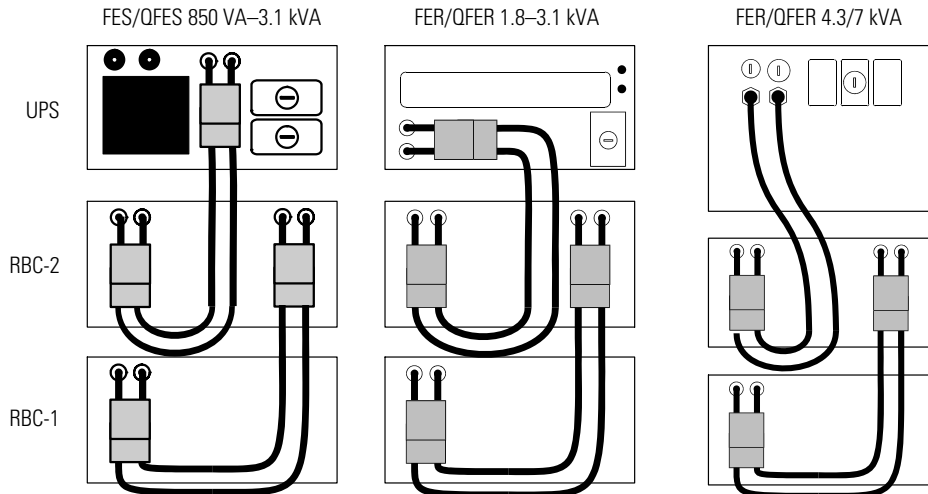

Figure 45. RBC-1 and RBC-2 Battery Connections
If the UPS has more than one battery cabinet, connect the bottom battery cabinet to the middle cabinet as shown in Figure 45.
3. If the battery voltage and polarity are correct, connect the cable to the UPS (see Figure 45 if you have more than one battery cabinet; see Figure 46 for only one battery cabinet).